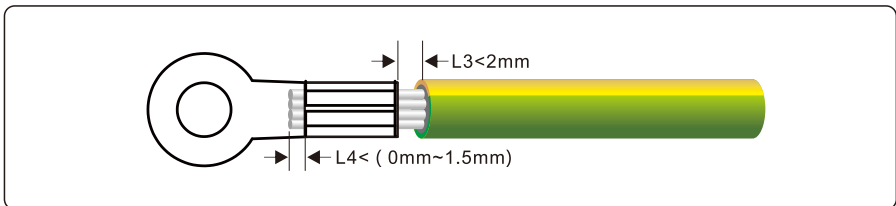

Figure 5.2 Crimping a cable (unit: mm)
Step 2 Insert the exposed core wires into the crimping areas of the OT terminal and crimp them by using hydraulic pliers, as shown in Figure 5.2.